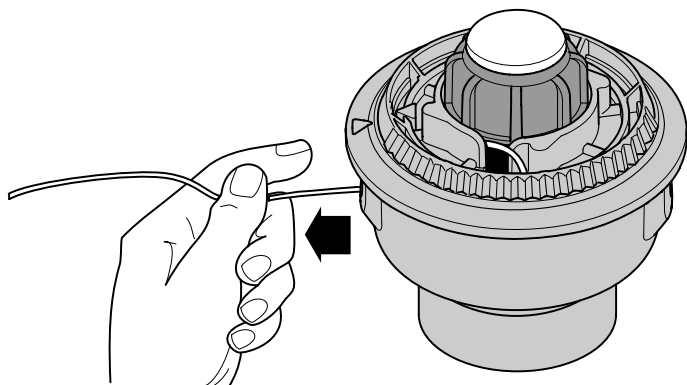

Fig. 44
6. Pull the line from the outer spool until the line is tight against the inner reel (Fig. 44).